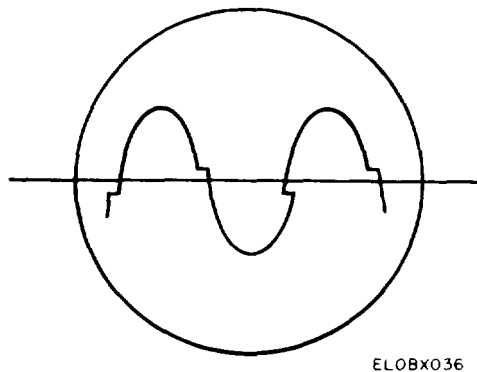

Figure 5-2. ATS audio output waveform.
e. Observe the oscilloscope presentation. The signal should appear approximately as shown in figure 5-2 and should be between 120 and 160 millivolts rms or 320 and 450 millivolts peak to peak. The electronic voltmeter leads may be changed to the output terminals temporarily to check the rms reading if the oscilloscope peak-to-peak reading is marginal.